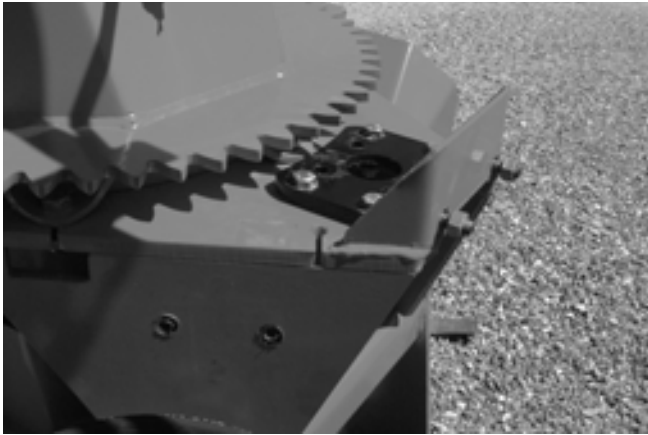

Figure 29
- 2) Install the mounting plate; put the required spacers between mounting plate and base of chute (see p. 35 to 40 for chute model). Do not tighten the bolts immediately, they will be tightened at final adjustment (Fig. 29).